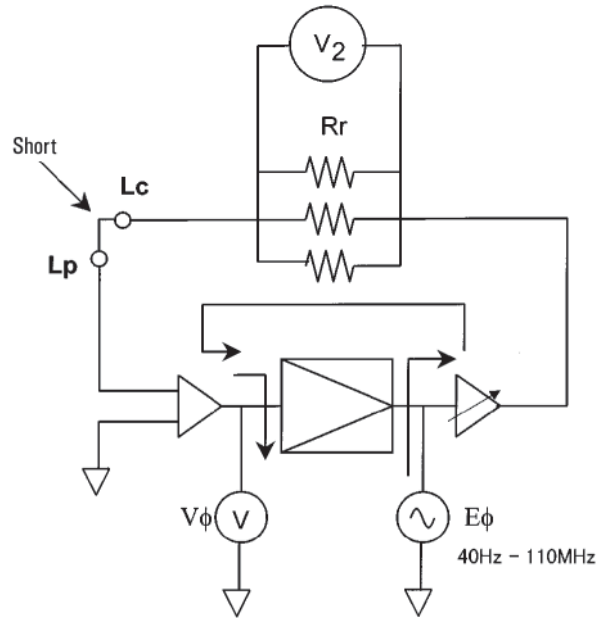

Figure 6. Bridge stability improvement by phase adjustment
As one more solution to address technical barrier no. 1 (the bridge balance problem at higher frequencies), the 4294A has a special circuit designed to compensate for the null-loop characteristics, which can vary with frequency and cable length. The circuit diagram is shown in Figure 6. In the null-loop circuit, the vector voltmeter ($V\phi$) and local oscillator ($E\phi$) are respectively placed before and after the narrow-band, high-gain amplifier.
- Supply a signal from the signal source $E\phi$ clockwise through the null-loop circuit. (See Figure 6.) Measure $V\phi$.